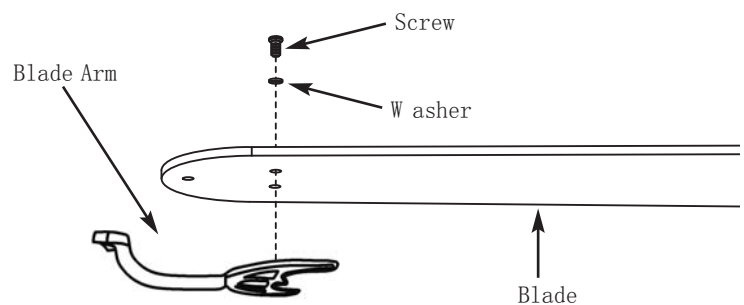

Fig. 11
- ❖ Attach each fan blade to a blade arm with three 3/16" x 7.5 mm blade screws and three 3/16" fiber washers (*see figure 11*). **DO NOT OVER TIGHTEN THESE SCREWS.**